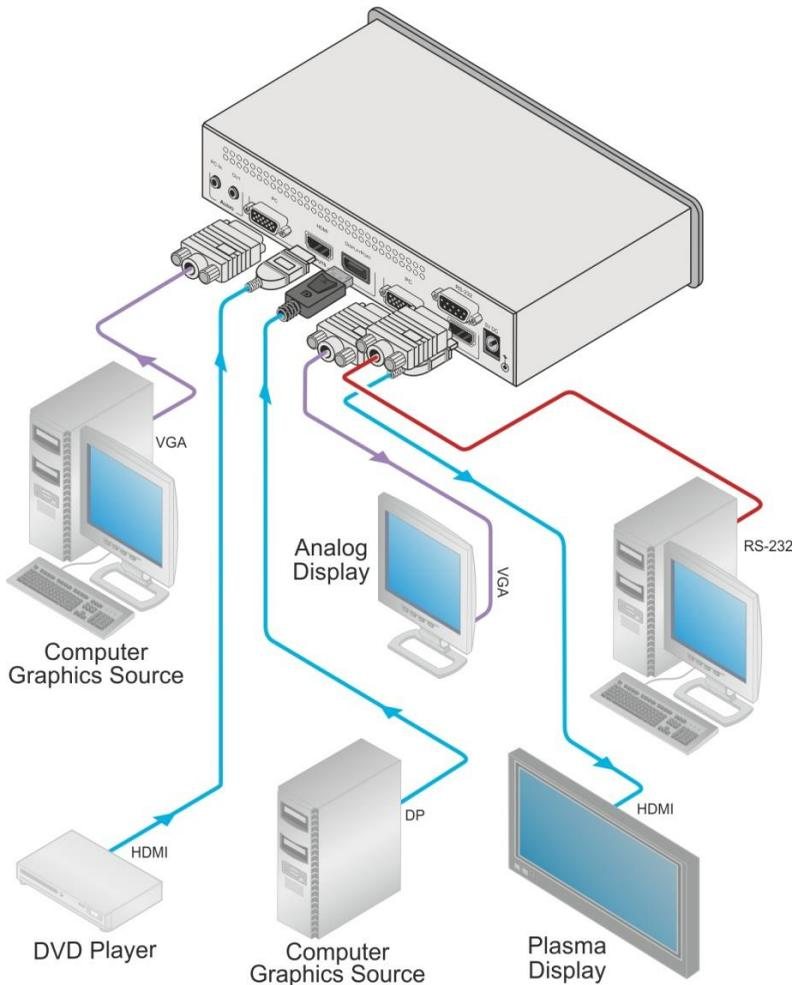

Figure 2: Connecting the VP-461 Video Scaler
To connect the **VP-461**, as illustrated in the example in Figure 2, do the following:
4. Connect the audio input signal to the AUDIO PC IN 3.5mm mini jack (not shown in Figure 2).
7. Connect the AUDIO OUT 3.5mm mini jack to an audio acceptor, not shown in Figure 2.
9. Connect the 5V DC power adapter to the power socket and connect the adapter to the mains electricity (not shown in Figure 2).